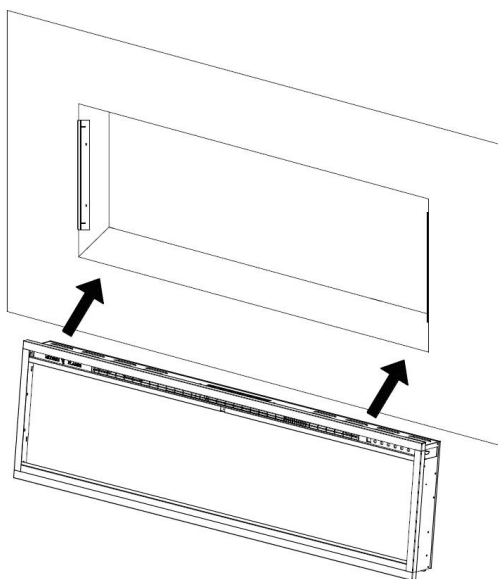

Figure 2-4
E. Insert the appliance into the rough-in frame and then secure it by installing 4 screws and two brackets (supplied) through the side holes (Fig. 2-4).